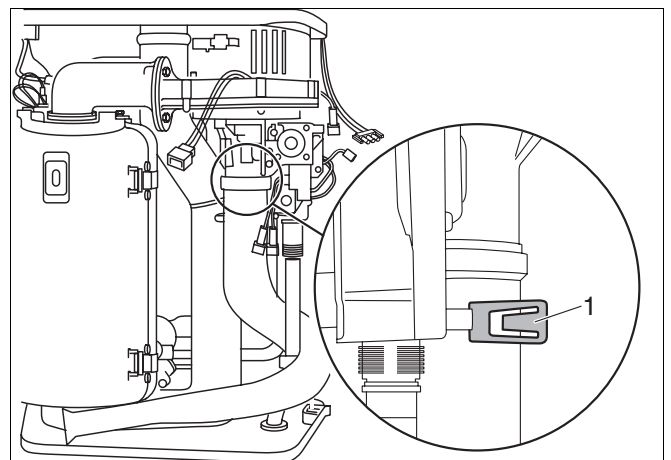

Fig. 43 Replacing the fan on the 600 Series:
- Push the safety plate out of the way (fig. 43, item 1).